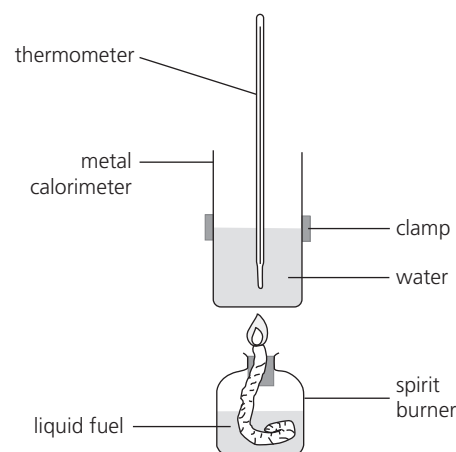

Figure 1
- Clamp the calorimeter over a spirit burner containing methanol. Ensure that the height of the calorimeter is set so that the flame from the burner will meet the bottom of the calorimeter (Figure 1).